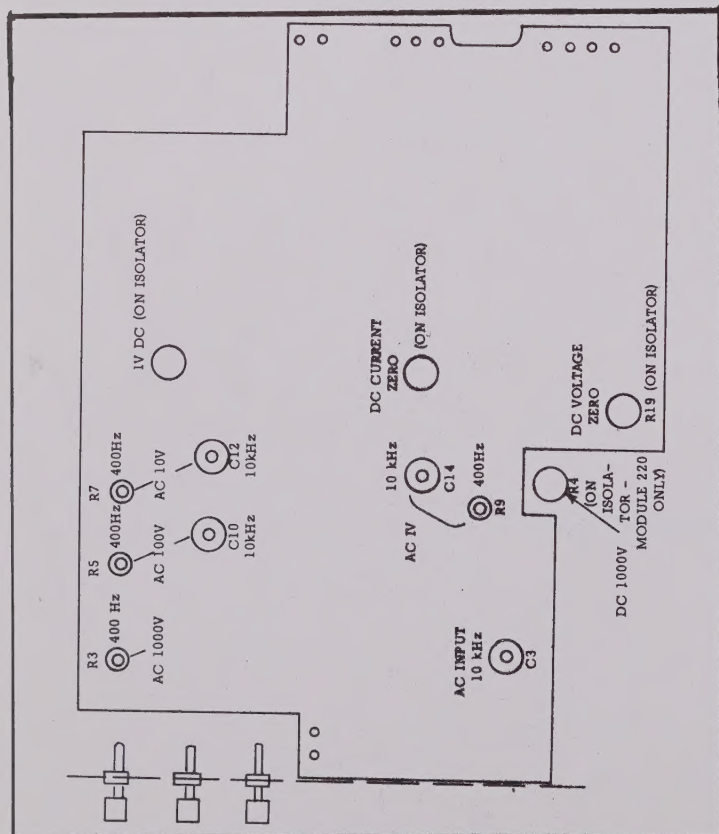

Figure 1. Locations - AC Converter (Bottom View)
- (g) Set the AC source to the following series of AC voltages and adjust the appropriate controls as called out on the bottom plate of the Accessory Module. (See figure 1.).